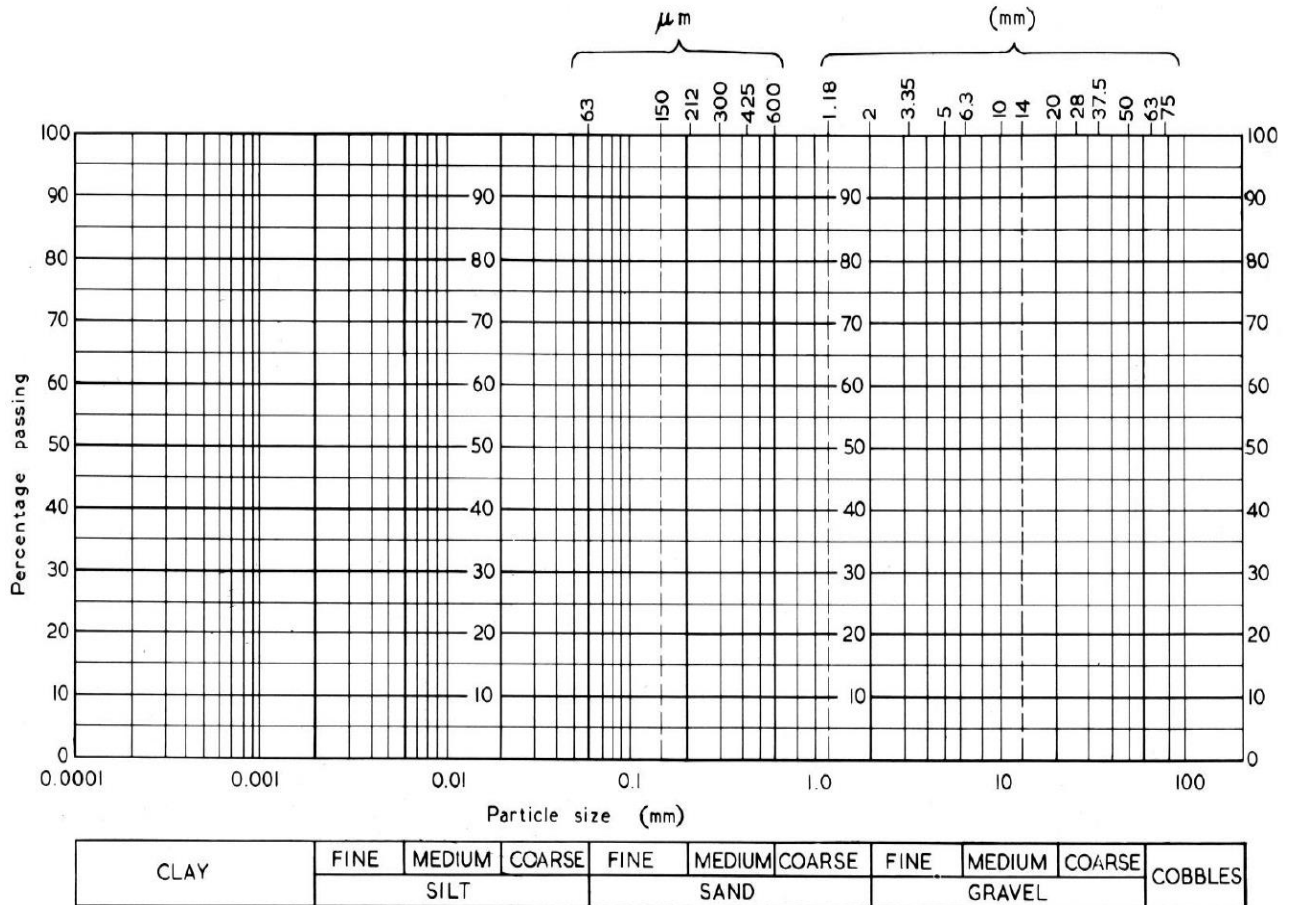

FIGURE Q3a
- (i) Determine cumulative percentage passing and plot the particle size distribution (PSD) on the chart provided in **Figure Q3a on page 6**.